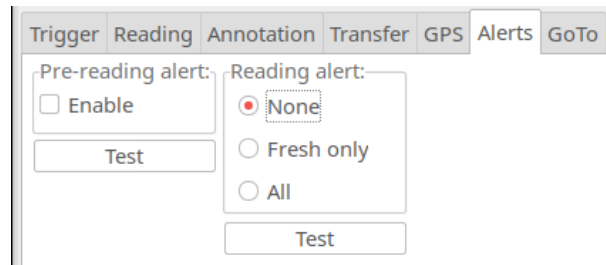

Figure 7.34: Log Continuously alerts
**Audio alerts** In cases where you want to be alerted that a reading will be taken, for example, when manually pointing the meter, the Pre-reading audio alert named **prereading.wav** can be enabled as shown in (Fig. 7.34) to play an audio file two seconds before the light meter record is logged. The “Test” button plays this file for test purposes.